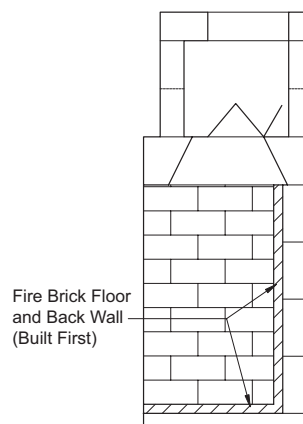

FIGURE 78
5. Set the side wall firebrick by starting at the front edge of the unit's side wall and working inward toward the back wall firebrick. The side wall firebrick, when completed, covers the 1/2" expansion gaps where both the floor firebrick and the back wall firebrick were held off the units side walls. **(Figure 78)**